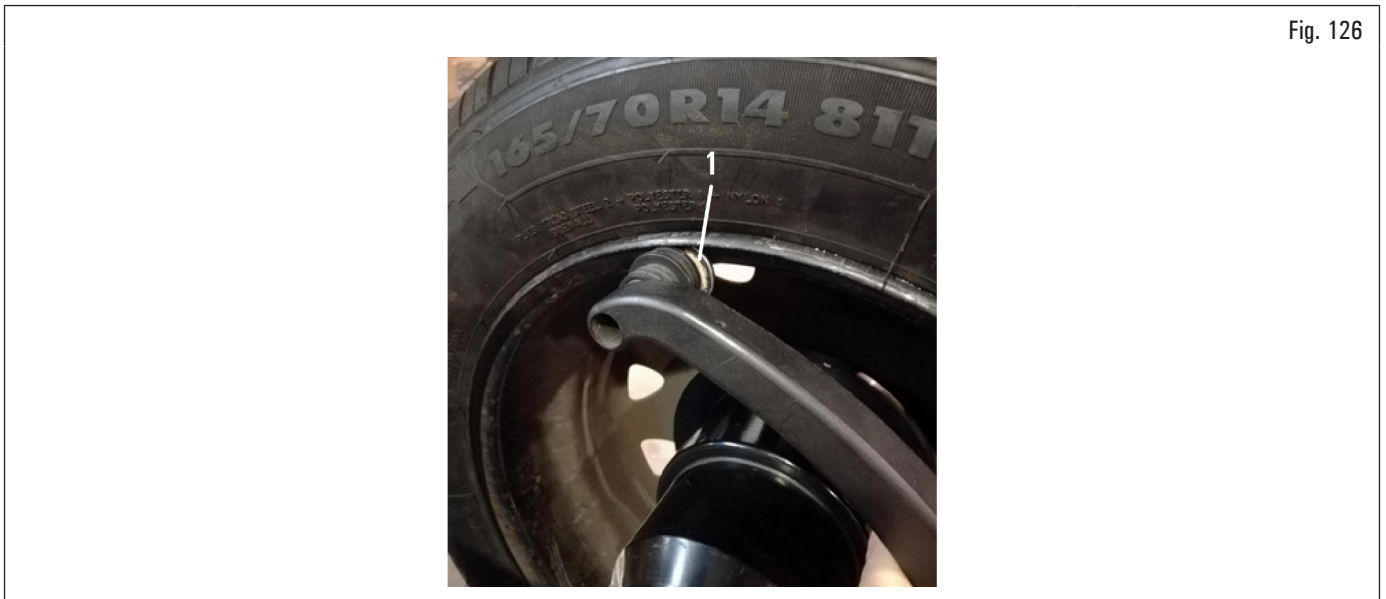

Fig. 126
Move the gauge bushing onto (Fig. 126 ref. 1) the inner edge of the wheel upwards (see Fig. 126).